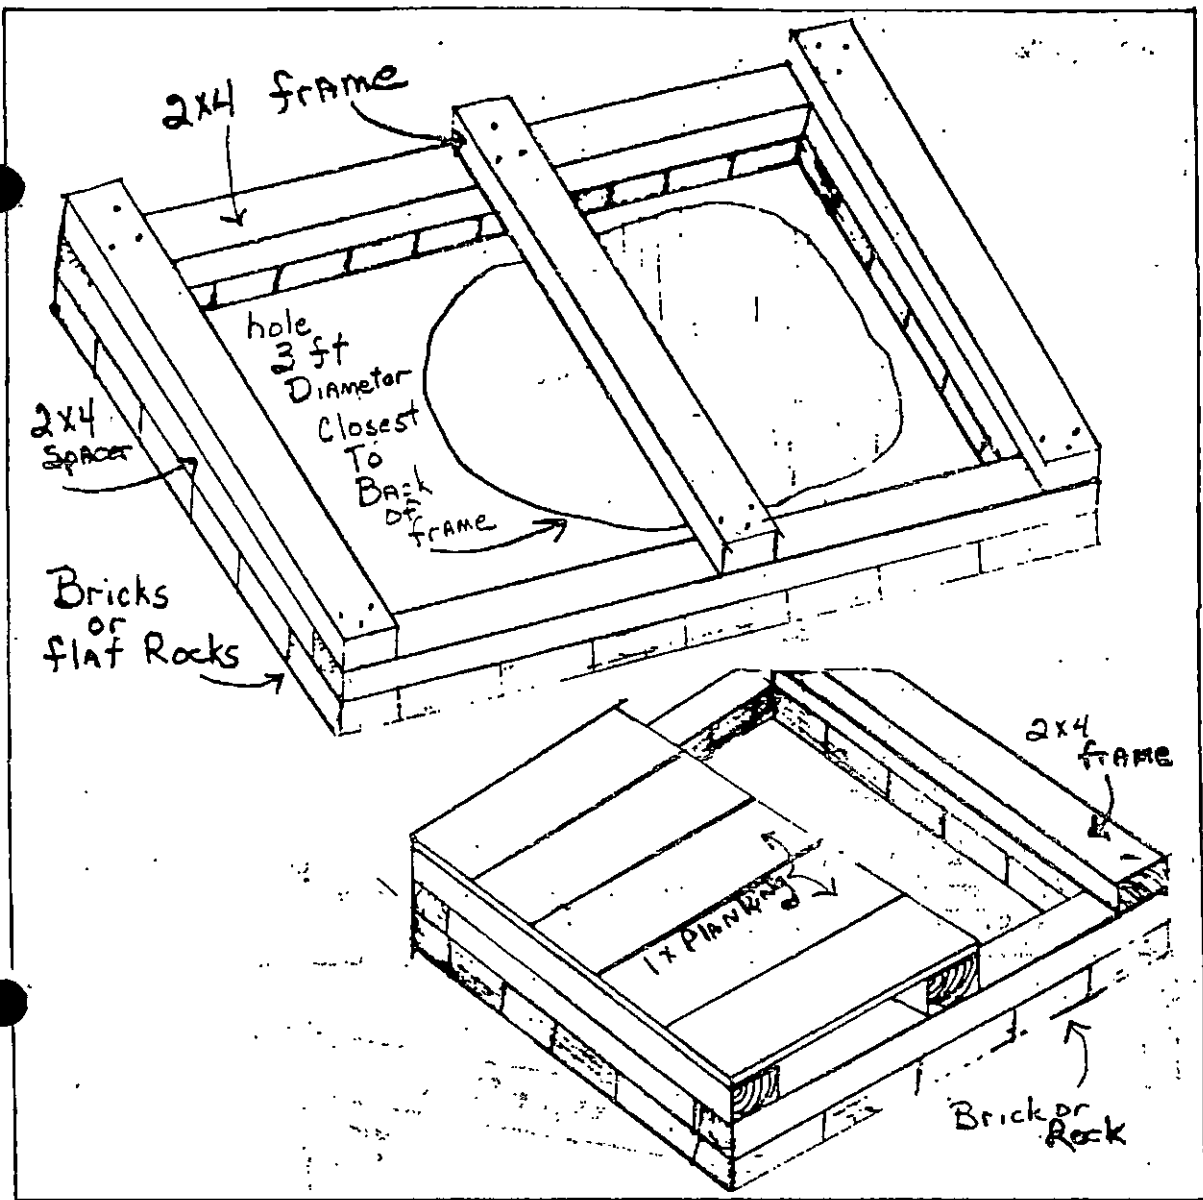

FIGURE 72
- Step 1. Construct a 2 x 4 frame 4' by 4' with a 2 x 4 in the middle. Creosote or paint with deck paint. (See Fig. 72)
- Step 3. Floor front half of frame with rough cut 1 X planking. Place on rocks. (See Fig. 72)